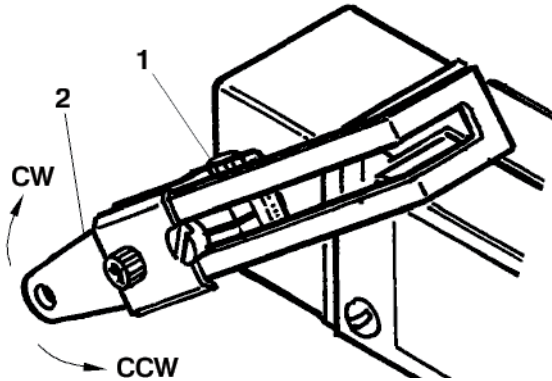

Figure 5-15. Setscrew "A" Location
- Loosen setscrew "A" (**Figure 5-15,1**), on the actuator arm (**Figure 5-15,2**). Reposition this arm by either rotating it clockwise or counterclockwise depending where the micro-switch clicked OFF during the conveyor flaps upward travel (**Figure 5-15**).